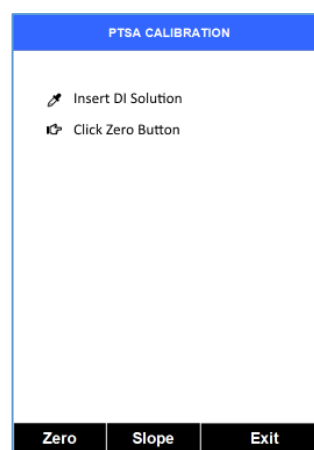

Figure 14
5. Press **Zero** to set the zero point, as shown in Figure 14.